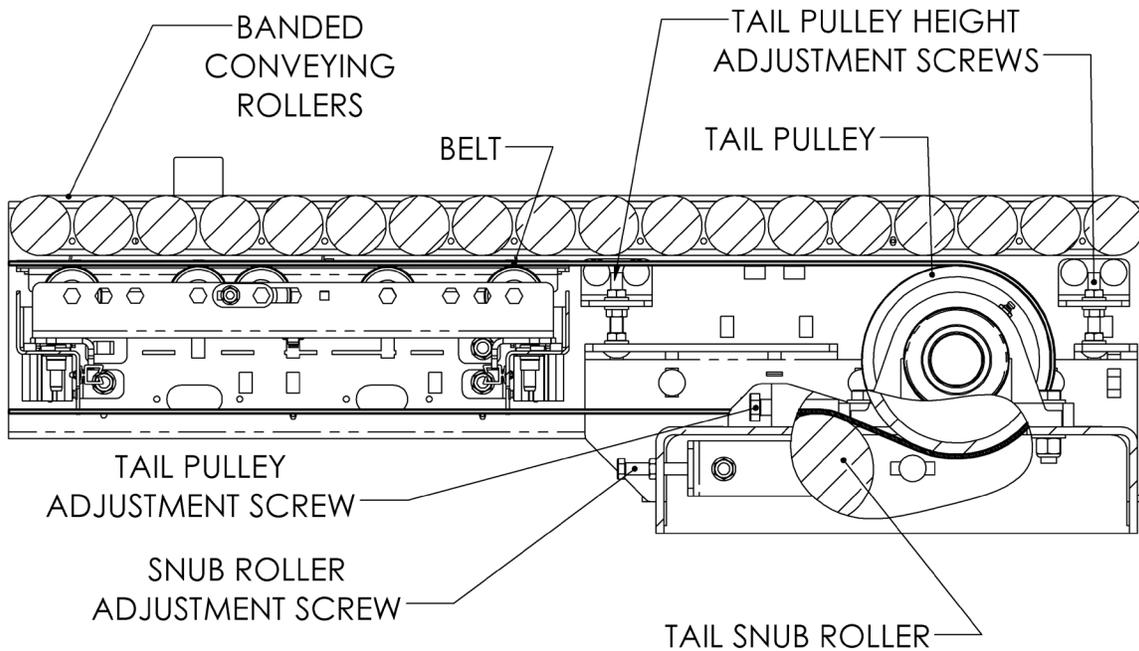

Figure 10: Tail Belt Routing
- a. See Figure 10: Tail Belt Routing for belt routing through the tail.